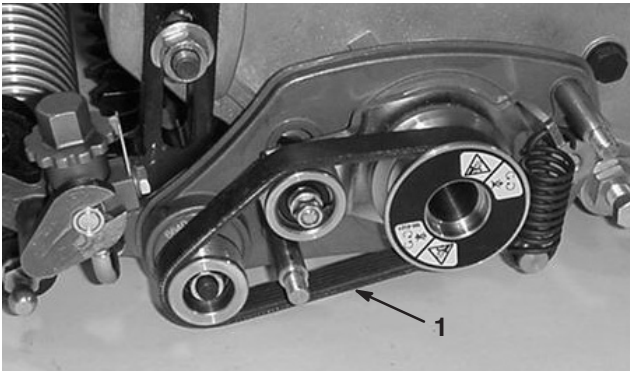

Figure 29
2. Remove the belt from driver pulley, idler pulley and driven pulley (Fig. 29).